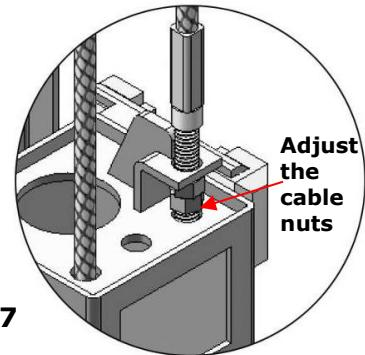

Fig. 47
1. Adjustment of synchronous cable (See Fig. 47)